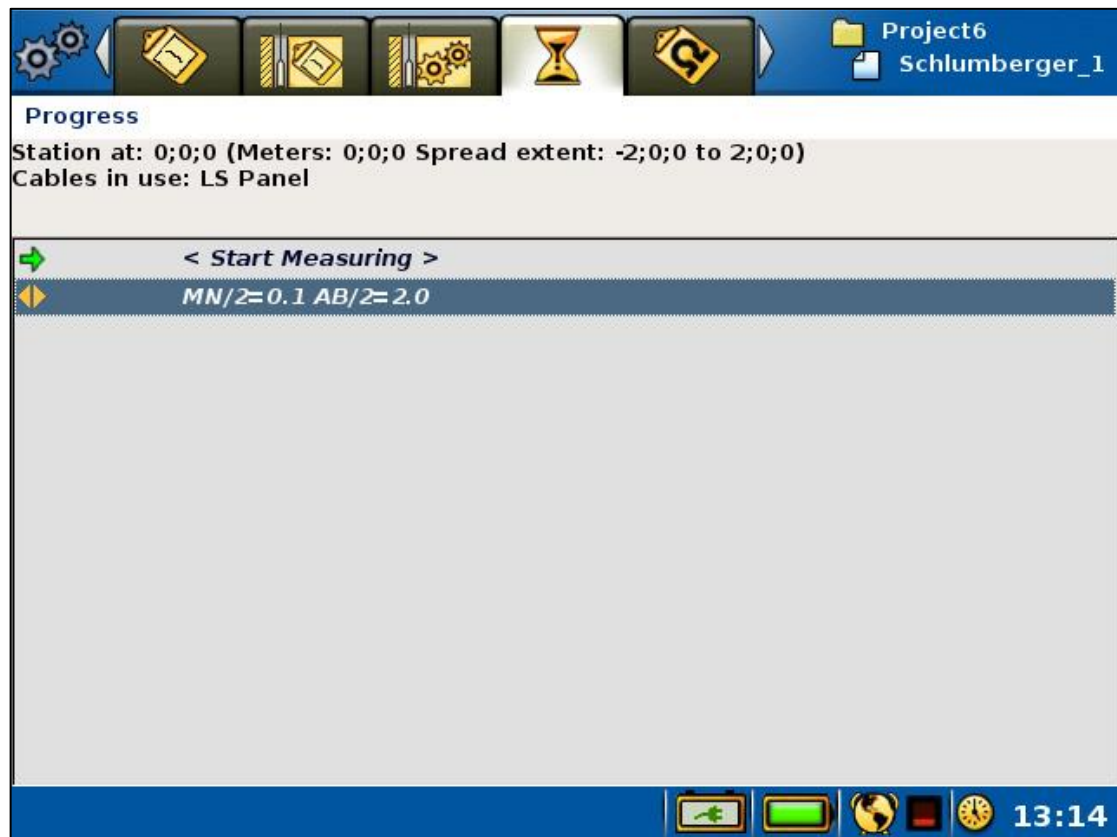
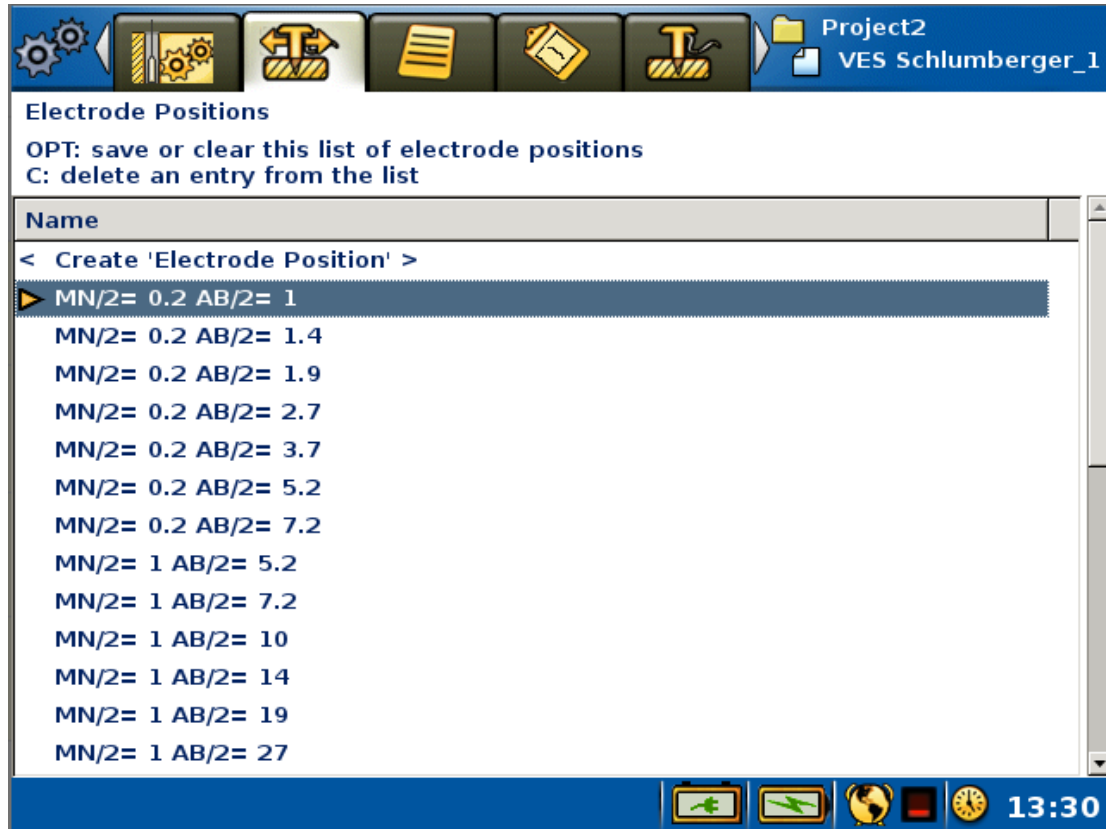

Figure 70 The Progress Page in VES mode
Figure 71 *Electrode Positions Page in VES mode. Highlight bar (blue) and active electrode position marker (yellow) both on the second row*
In VES mode, with a Schlumberger protocol selected, a line with a “MN/2 and AB/2” electrode position will be shown on the *Progress Page* (Figure 70). This is the active electrode position, and it can be changed using the left and right arrows. It is thus possible to step through all available electrode positions that are pre-defined in the protocol file; measurements do not necessarily need to be undertaken at every interval.
The *Electrode Positions Page* (Figure 71) lists all the electrode positions from the protocol file. The yellow arrow is placed on the line that corresponds to the active electrode position. This electrode position is the one that is shown on the second row of the *Progress Page* (Figure 70). The *Electrode Positions Page* will be empty when the instrument is not in VES mode.
- Navigate to the “Measure/Electrode Positions” Page (Figure 71)